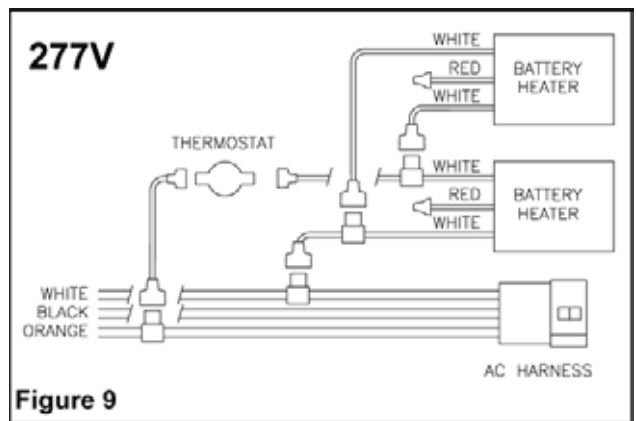

**Figure 7**
- a. Connect battery heater to thermostat (19) and to AC harness (10) (see figure 7).